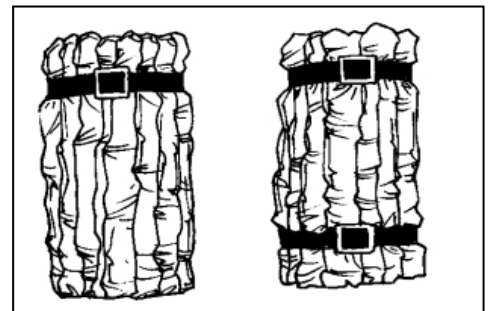

Figure 3-6. Positioning Both Cinch Straps
2. With one of two straps secured, place two people, one on each side of the shelter and continue to push shelter together while a third person tightens the second strap approximately 1 ½ ft from the bottom (see Figure 3-6).